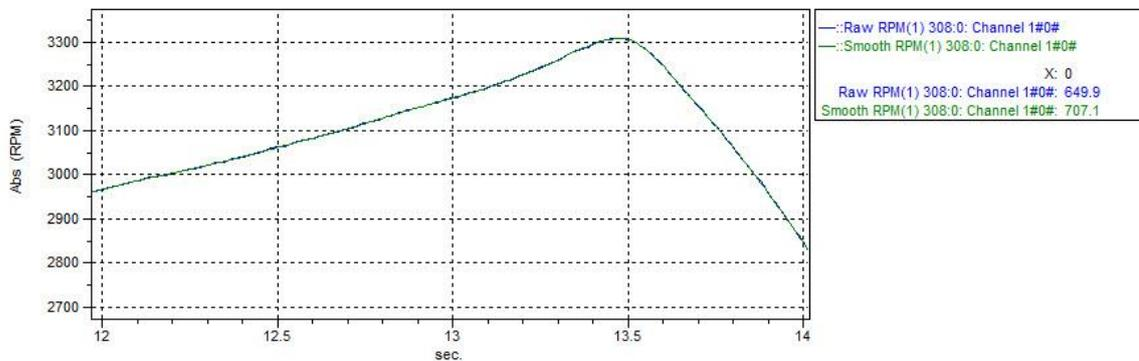

Figure 18: Zoomed area of tachometer processed data
- Zoom in on the peak of the RPM curve to see the two curves. Right-click the plot, choose “Zoom”, then click and drag over the region you want to zoom. An example is shown in Figure 18.